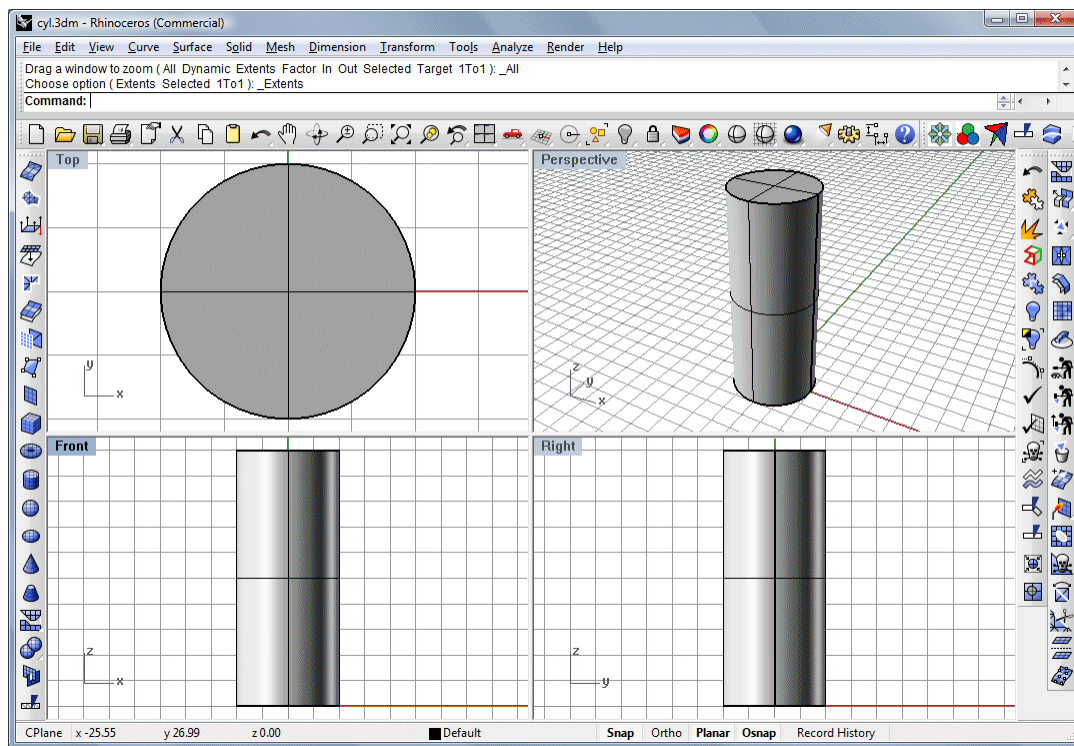

Figure 31: Solid representing a cylinder
1. Click on the label of the window pane Perspective (upper left of the pane) to make it active. Select the **Solid|Cylinder** menu item. Enter **0** followed by **<ENTER>** to center of the *base* of the cylinder at the origin. Enter **2** followed by **<ENTER>** to set the Radius of the base to **2**. Enter **10** followed by **<ENTER>** to set the Height of the cylinder to **10** and complete the construction of a vertical cylinder (Figure 31).